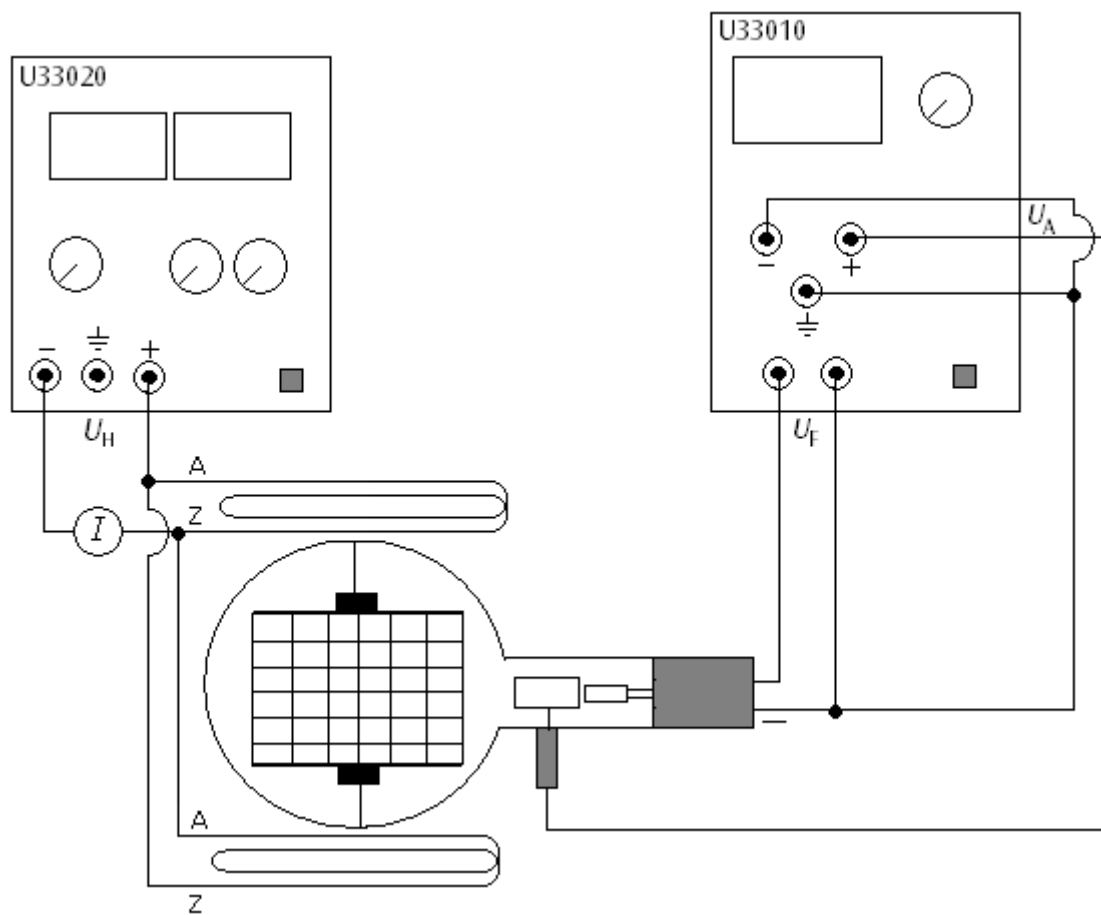

Fig. 2 Magnetic deflection
- Set up the tube as in Fig. 2. Connect the minus-pole of the anode voltage to the 4-mm socket marked with a minus.
- Set up the experiment as in Fig 2.